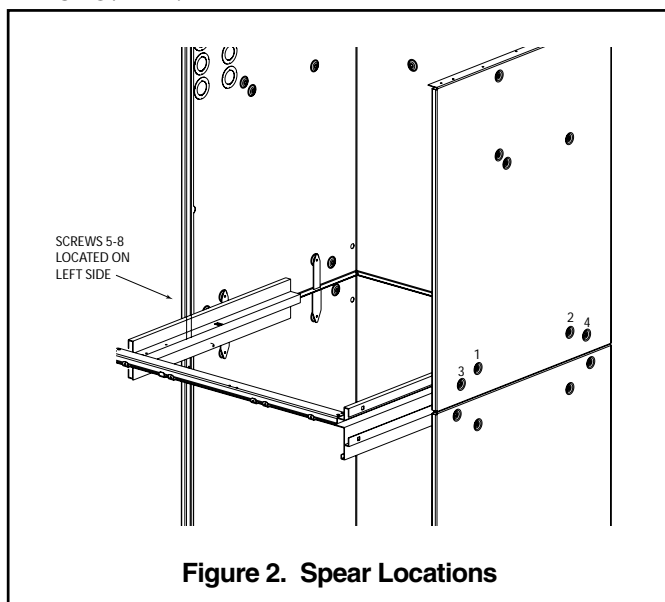

Figure 2. Spear Locations
Steps for disassembly and reassembly (See Figures 2 and 3)
7. Remove top 8 screws. See Figure 2.